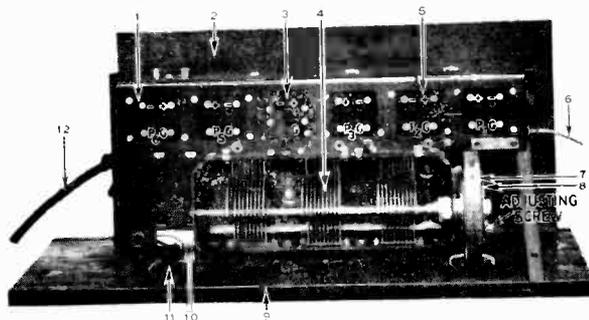
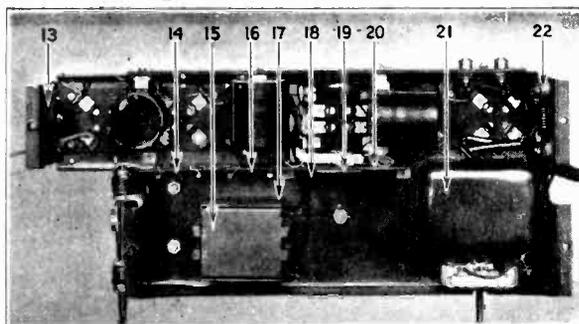

Fig 1
Fig. 2
13. Test plate circuits (indicated as P Fig. 1) now using the high scale of the meter.
- (b) Insert the positive meter test lead in all contacts marked "P" in Fig. 1. The readings will indicate as follows:
If the Weston Radio Set Tester is used, the tube tests can be made in the regular manner by placing the plug in socket No. 1, Fig. 1. If the set tester is not available, the low scale of the voltmeter can be used, the procedure being as follows:
- b. Place the two leads connected to the low scale of the voltmeter in the two filament socket contacts of Radiotron Socket No. 2 marked "+" and "-" as shown in Fig. 1; regulate the voltage to 5 volts.
- d. Note the deflection of the meter when the latter is connected as described above, and compare this deflection with that given by a tube which is known to be good. The amount of deflection depends on (1) the meter used, (2) the condition of the "B" batteries, and (3) the condition of the tube under test. (1) and (2) remaining unchanged, a comparative indication of the condition of the various tubes can be obtained; in general a high deflection indicates a good tube, and a low deflection indicates a poor tube.
5. The various Radiotrons, shown in Fig. 1, function as follows:
- a. Various Radiotrons should be tried in sockets Nos. 2 and 3, Fig. 1, until two have been found which cause a minimum amount of oscillation.
- (1) Broken wire in cable.
- (2) Broken contact on fixed resistor, 22, Fig. 2, in +A line.
- (3) Broken filament leads from resistor to sockets.
- (4) Poor socket contacts.
- (5) Leads to volume control, 10, Fig. 1, broken or loose.
- (6) Contact arm on volume control not making proper contact.
- (7) Open fuse (if used) in +A lead.
- (8) Poor contact at battery terminals.
- b. GRID TESTS—Reconnect the batteries; remove all tubes from the sockets; and turn the Switch knob of the Weston Radio Set Tester to the "C" position, or using the low scale of the 0-7.5 and 0-150 voltmeter, test the "C" battery voltage in sockets Nos. 5 and 6. No "C" battery reading will be obtainable from sockets 1, 2, 3 and 4. If the voltmeter is used, place the lead connected to the + terminal of the meter in a "-A" contact, and the lead connected to the 7.5 terminal of the meter in the "G" contact shown in Fig. 1. With the power switch pushed down to the "on" position, the following are the approximate results which should be obtained.